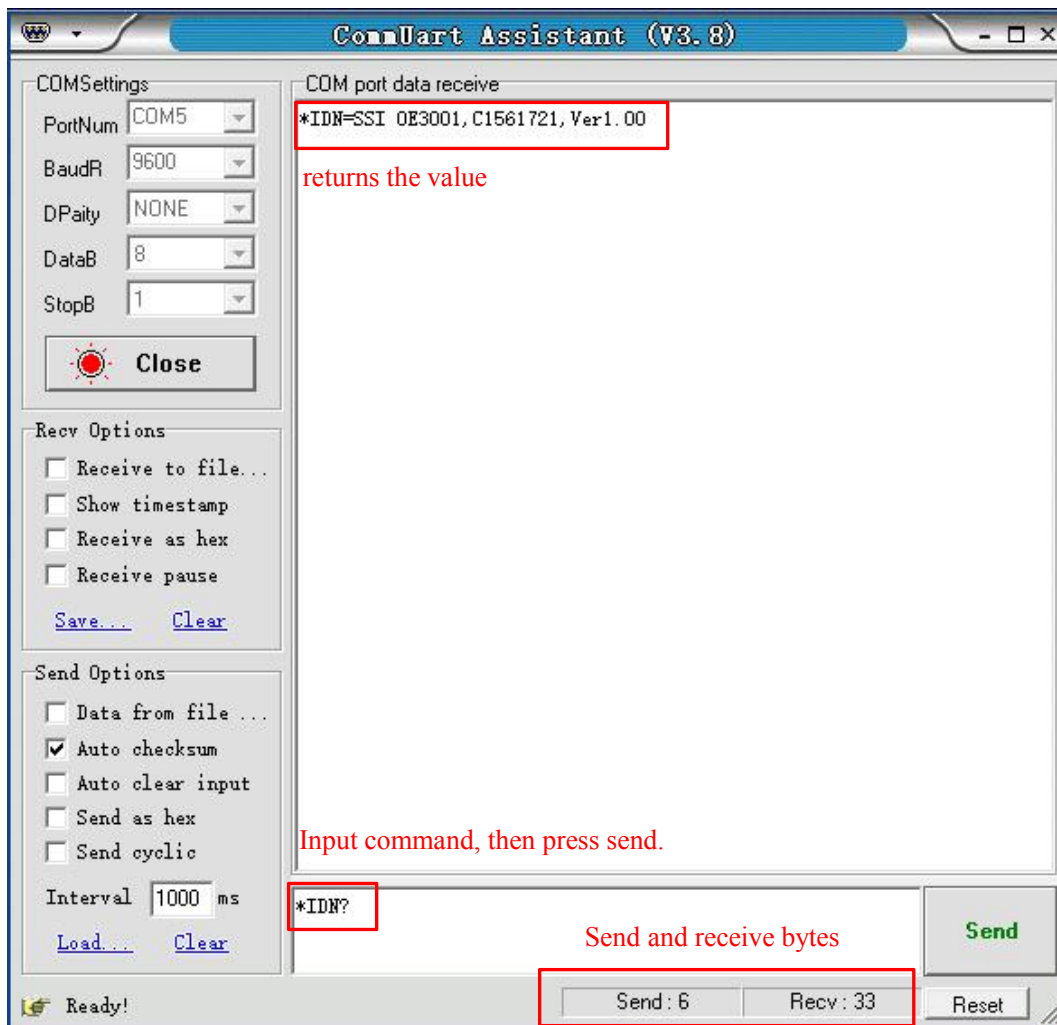

Fig.18 Operation example
- (a) The commands obey the rules described on Chapter 5.5. The real case is shown in Fig.18. Enter commands and then click “Send”. Then the SE3001 will execute the received commands. If the commands query returns, the returned result will be shown in data receive region.